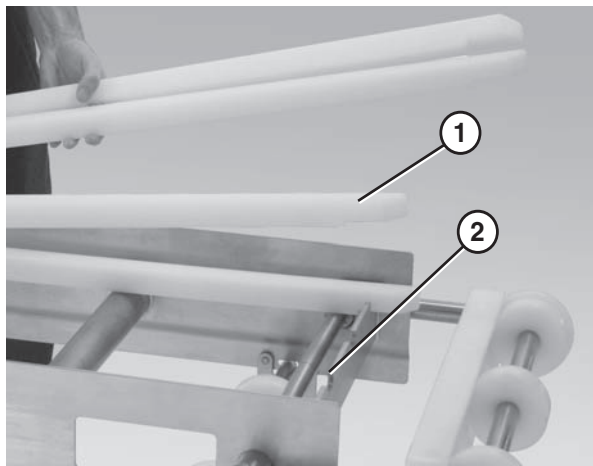

Figure 27
1. Position the wear strips (**Figure 27, item 1**) on the frame.
2. Make sure the wear strips are situated securely in the frame slots (**Figure 27, item 2**).